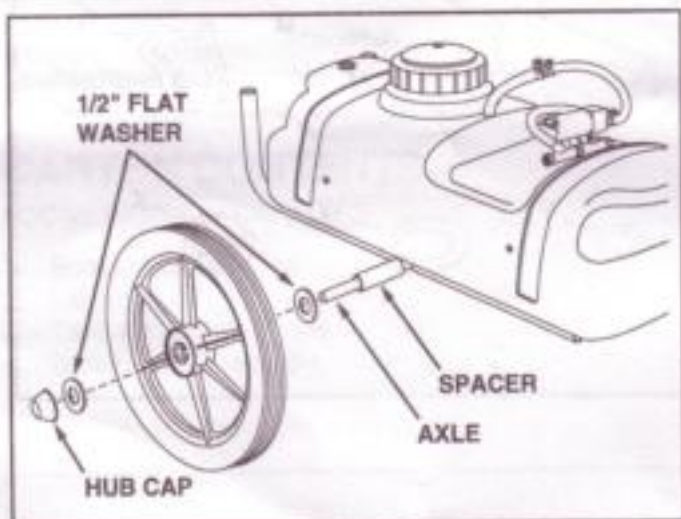
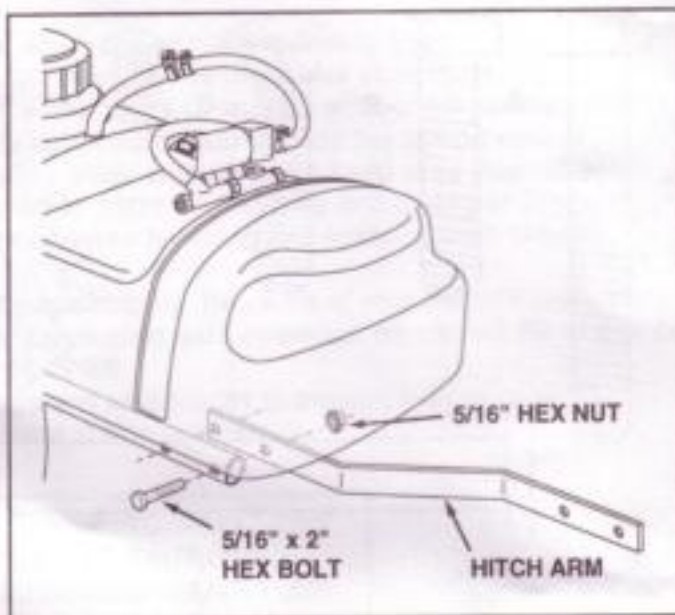
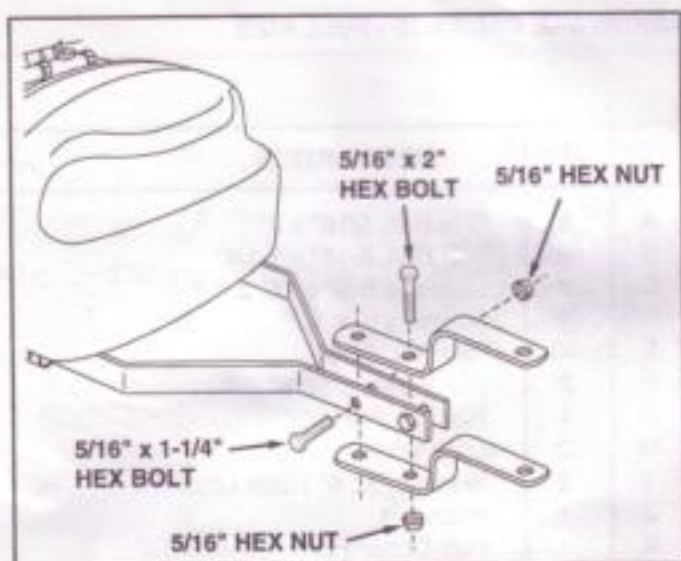

FIGURE 1
FIGURE 2
FIGURE 3
Your sprayer carton contains parts as shown in figure 1. The hardware package contains parts as shown in figure 2. Identify all parts and layout as shown in figures 1 and 2.
2. Assemble the axle through the large holes in the frame tubes. If the axle will not fit, slightly loosen the bolts in the frame tubes to align the holes. Retighten the bolts after assembling axle. See figure 1.
3. Assemble a spacer, a 1/2" flat washer, a wheel and another 1/2" flat washer onto the axle. Lightly tap a hub cap onto the end of the axle. Repeat on other end of axle. See figure 1.
4. Assemble a hitch arm to the inside of a frame tube underneath the tank. Use two 5/16" x 2" hex bolts and 5/16" hex nuts as shown in figure 2. **Do not tighten yet.** Repeat for other side.
5. Fasten the ends of the hitch arms together using two 5/16" x 1-1/4" hex bolts and 5/16" hex nuts. **Do not tighten yet.** See figure 3.
6. Assemble the hitch brackets to the hitch arms using two 5/16" x 2" hex bolts and 5/16" hex nuts. Position each bolt behind one of the cross bolts in the hitch arms. **Do not tighten yet.** See figure 3.
- At this time **tighten all bolts** starting with the bolts in figure 2, then the bolts in figure 3.